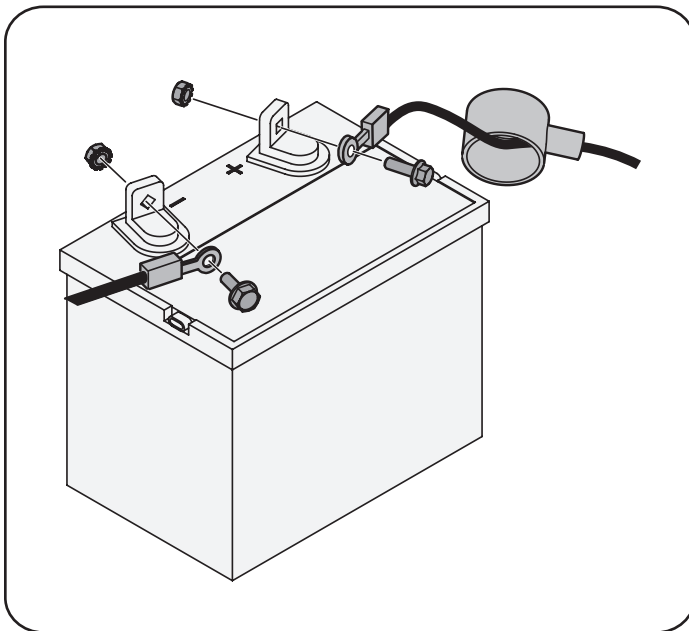

Figure 1
1. Remove the plastic cover, if present, from the positive battery terminal and attach the red cable to the positive battery terminal (+) with the bolt and hex nut. See Figure 1.
2. Remove the plastic cover, if present, from the negative battery terminal and attach the black cable to the negative battery terminal (-) with the bolt and hex nut. See Figure 1.